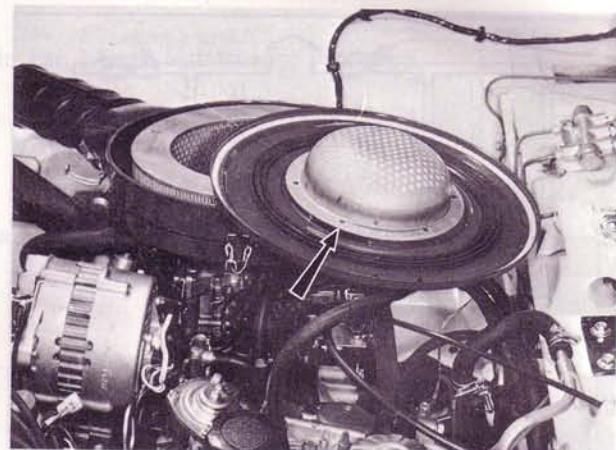

Fig. 1A-49 Charcoal canister
2. Install the vacuum gauge as shown in Fig. 1A-50 and check for clogging of the canister.